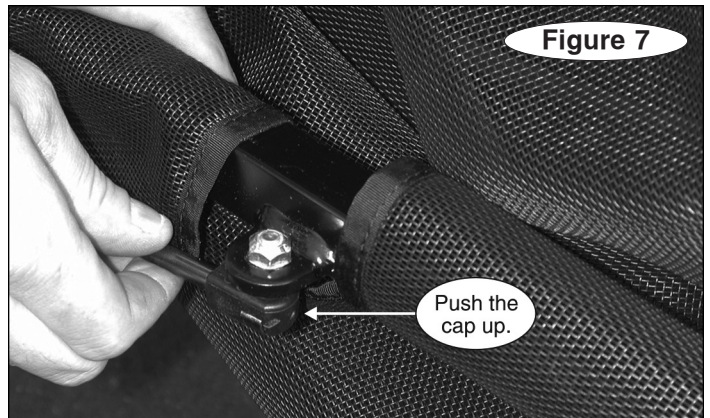

Figure 7
9. Connect one of the struts to the ball joint on the replacement arm – position the end of the strut over the ball joint. Push the ball joint cap up into the ball joint, until it 'snaps' in place over the ball joint (Figure 7).